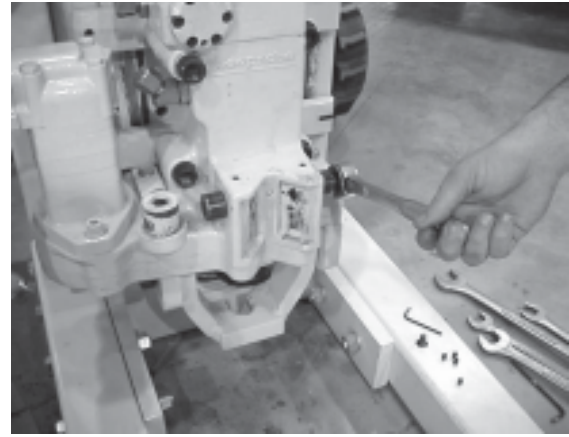

Figure 7. Loosen studs with 1/2-inch drive ratchet.
9. Turn each rod grip pull stud with a 1/2-inch drive ratchet (Fig. 7) until the studs can be pulled from the hammer by hand. Note that the studs are not threaded. Turning the studs simply loosens any dirt or corrosion that may cause them to stick within the hammer.